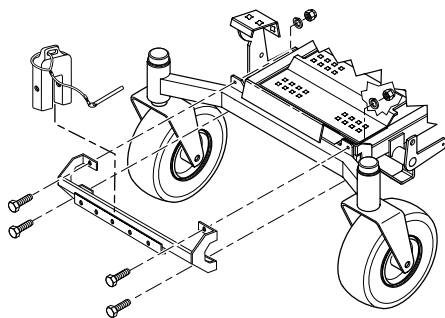

FIGURE 3-9
- Using the weight support bar as a guide, identify the four corresponding mounting holes, and the existing hardware that will need to be removed in order to secure the weight support bar to the front of the machine as shown. See Figure 3-9.
- Install one 7/16-14 x 1-3/4" hex head bolt into each of the four mounting holes in the weight support bar, and through the matching holes in the caster support weldment. Secure this assembly to the front of the machine using the 7/16-.5" x 1-1/4" x .083" flatwashers, and the 7/16-14 elastic stop nuts. Torque hardware to 59 ft. lbs. See Figure 3-9.